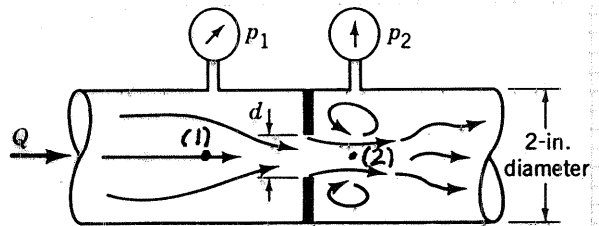

FIGURE P3.75
3.75 What diameter orifice hole, d , is needed if under ideal conditions the flowrate through the orifice meter of Fig. P3.75 is to be 30 gal/min of seawater with $p_1 - p_2 = 2.37$ lb/in.²? The contraction coefficient is assumed to be 0.63.